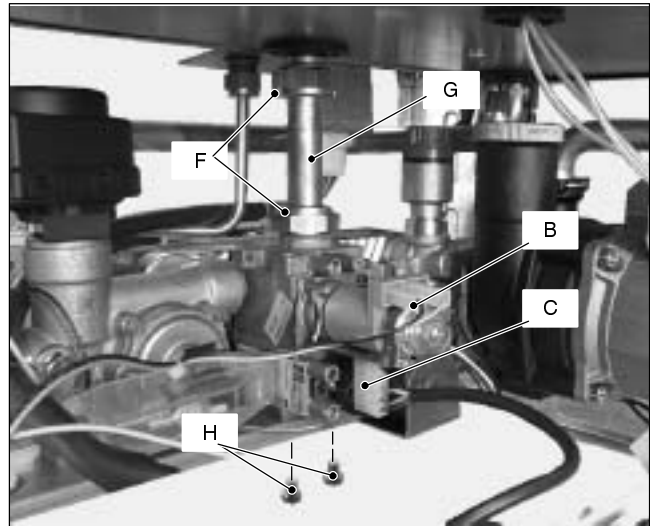

Fig. 48
- 2 Disconnect the connectors *B* (Fig. 48) from the modulating operator and measure the electrical resistance of the coil. Its electrical resistance value must be approx. $80 \Omega^*$.
- 2 Disconnect the electrical connector *C* (Fig. 48).
- 2 Disconnect the connectors *B* and *C* (Fig. 48).